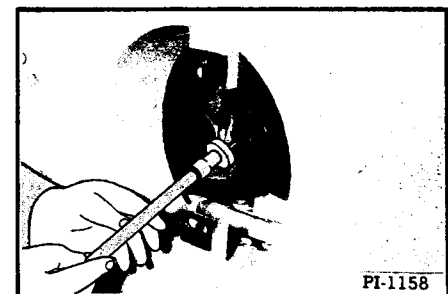

Fig. 59 Removing Holding Screw & Washer
1. Remove the holding screw and machined holding washer (Figure 59).